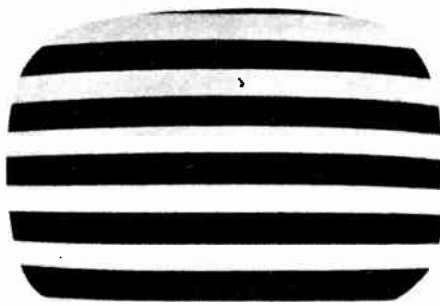

Fig. 1. Pattern produced by signal generator with 400-cycle modulation.
Coupling in the filament stage occurs through the small but still significant capacitance between the cathode and filament of a tube (see Fig. 1). For instance the twin triode, the 12AT7, has a filament-to-cathode capacitance (for each unit) of 2.5 μf . This might be thought small, but at the frequencies used in a television receiver, it becomes important. At a frequency of 80 mc the reactance of this 2.5- μf capacitance is equal to
Fig. 1.—(A) shows a simplified tube circuit showing the filament-to-cathode capacitance. (B) is the equivalent r-f circuit showing the low filament-to-cathode reactance used for coupling the filament and cathode circuits of a tube.
The vertical linearity and height controls can be checked and adjusted by setting the channel selector to some channel not used in your area. This should probably be one of the lower channels since most of the older signal generators do not cover the high tv channel frequencies. The r-f output cable of the signal generator should be connected to the antenna terminals of the receiver. The output of the signal generator must be modulated since it is the frequency of the modulation which is visible on the picture tube screen. Most signal generators have provision for 400-cycle modulation which produces a bar pattern similar to that shown in Fig. 1.
The output of some signal generators such as the General Electric YGS-3 can be modulated by a 60-cycle or 400-cycle fixed frequency, or by any frequency within the variable frequency range of 100 to 12,000 cycles. The 60-cycle modulation produces a pattern consisting of two horizontal bars as shown in Fig. 2. The positive half of the sine wave produces the bright bar, while the negative half produces the black bar. The 400-cycle modulation produces six bright bars and five dark bars as shown in Fig. 1. The number of black and white bars will vary depending on the frequency of the